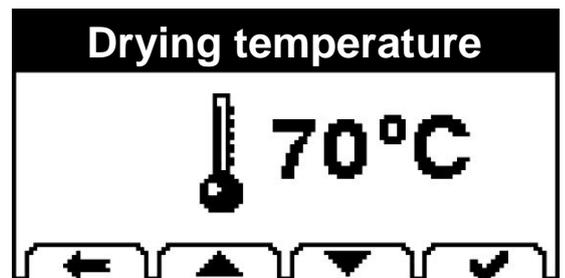

Fig. 5.8
- If the phase with heating has been selected, the user will access the drying temperature programming screen (Fig. 5.8). Increase or decrease the drying temperature with the  and  keys.